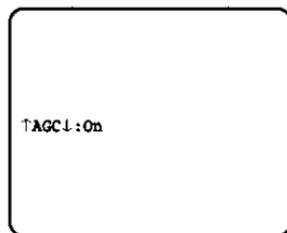

Fig. 8
1. Display the AGC Menu as shown in Fig. 8 by repeating the previous procedures.